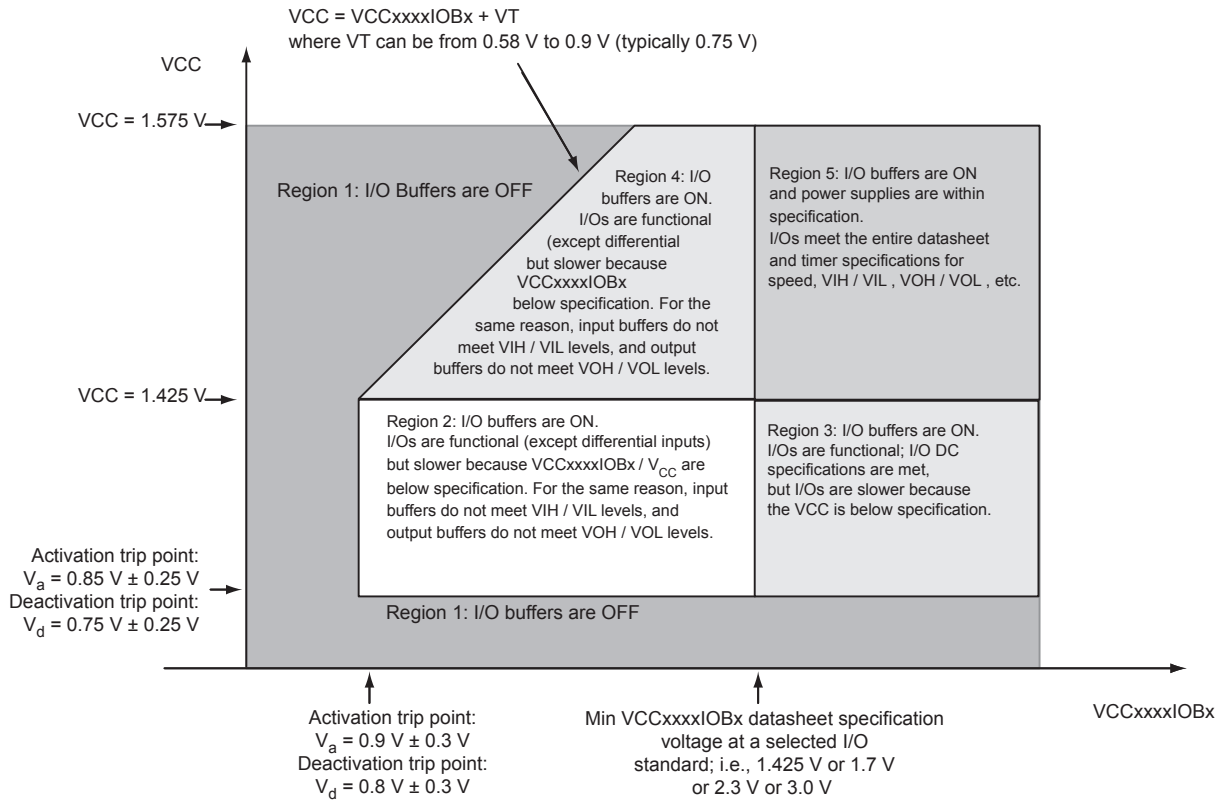

Figure 2-1 • I/O State as a Function of $V_{CCxxxxIOBx}$ and V_{CC} Voltage Levels
Sophisticated power-up management circuitry is designed into every SmartFusion cSoC. These circuits ensure easy transition from the powered-off state to the powered-up state of the device. In addition, the I/O will be in a known state through the power-up sequence. The basic principle is shown in Figure 2-1 on page 2-6.
1. VCC and VCCxxxIOBx are above the minimum specified trip points (Figure 2-1 on page 2-6).
The Microsemi SoC Products Group recommends using monotonic power supplies or voltage regulators to ensure proper power-up behavior. Power ramp-up should be monotonic at least until VCC and VCCPLLx exceed brownout activation levels. The VCC activation level is specified as 1.1 V worst-case (see Figure 2-1 on page 2-6 for more details).